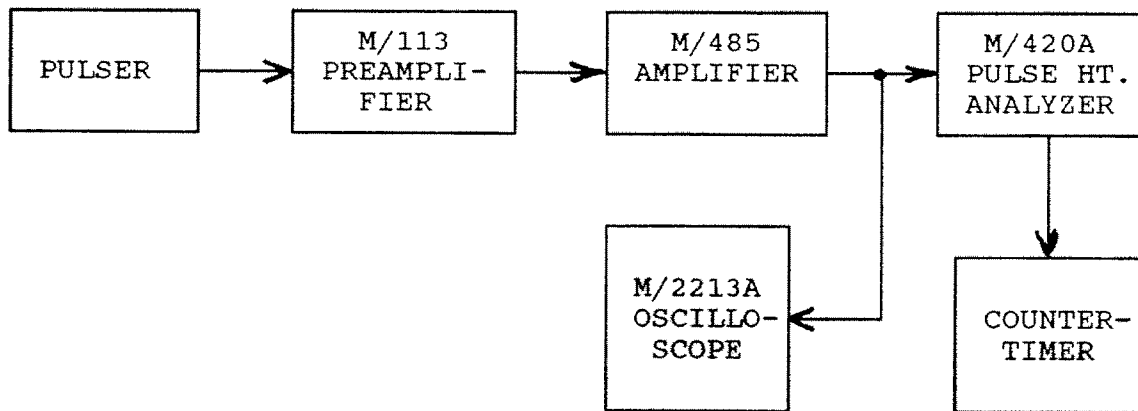

Figure 3 Typical Counting System With Pulser Input
- Turn off the power to the NIM bin. Install the ORTEC model 485 linear amplifier, the model 420A timing single-channel analyzer, and a counter-timer in the bin, and connect them as shown in Figure 3 on the next page. The junctions are made using a BNC "T" connector. The M/113 preamplifier is a separate unit, but its power is drawn from the bin via a connector on the back of the linear amplifier module.